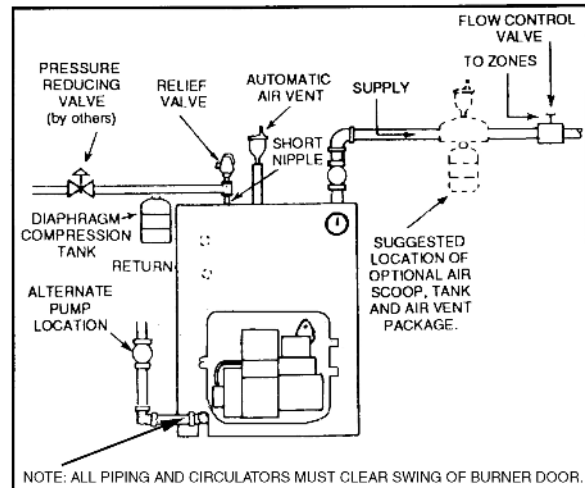
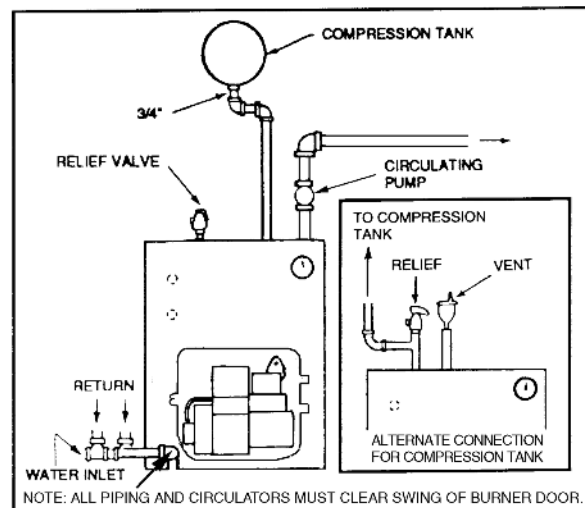

Figure 6. Air Eliminating System
Figure 7. Air Collecting System
- B. A **FLOW CONTROL VALVE** (See figure 6) will prevent gravity circulation and usually is required when tankless heater is installed.
- A. **DIAPHRAGM-TYPE COMPRESSION TANKS** are used to control system pressure in an **AIR ELIMINATING SYSTEM**: an automatic air vent is used to REMOVE air from the system water. See figure 6. If system pressure needs further control, add an additional tank or install a larger capacity tank. The automatic air vent should be installed in the top of the boiler, as in figure 6.
- B. **CONVENTIONAL COMPRESSION TANKS** (non-diaphragm type) are used to control system pressure in an **AIR COLLECTING SYSTEM**. Within the system, after initial start-up and venting, air is collected in the tank and acts in contact with the water to control pressure. Air is not vented from this system. If system pressure needs further control, add another tank in parallel with the original tank or install a large capacity tank. Locate the tank at the inlet end of the pump near the boiler. (See figure 7)
- D. **PUMP LOCATION**-Locating low-head pump(s) on return to boiler is only acceptable in residences of one or two stories. (See figure 6) The pump location shown in figure 7 is required in large, multi-story building installations, especially when high-head pumps are used and is also recommended for all applications.
- E. A conventional compression tank may be connected to the 3/4" tapping as shown in figure 7.
IMPORTANT: Hot water heating systems containing high water volume, such as would occur with cast-iron radiation, require special care with air elimination. The circulator pump should be located on the boiler supply pipe and the expansion tank and air scoop should be located near the pump suction. (See Figure 6, Alternate Pump Location.)